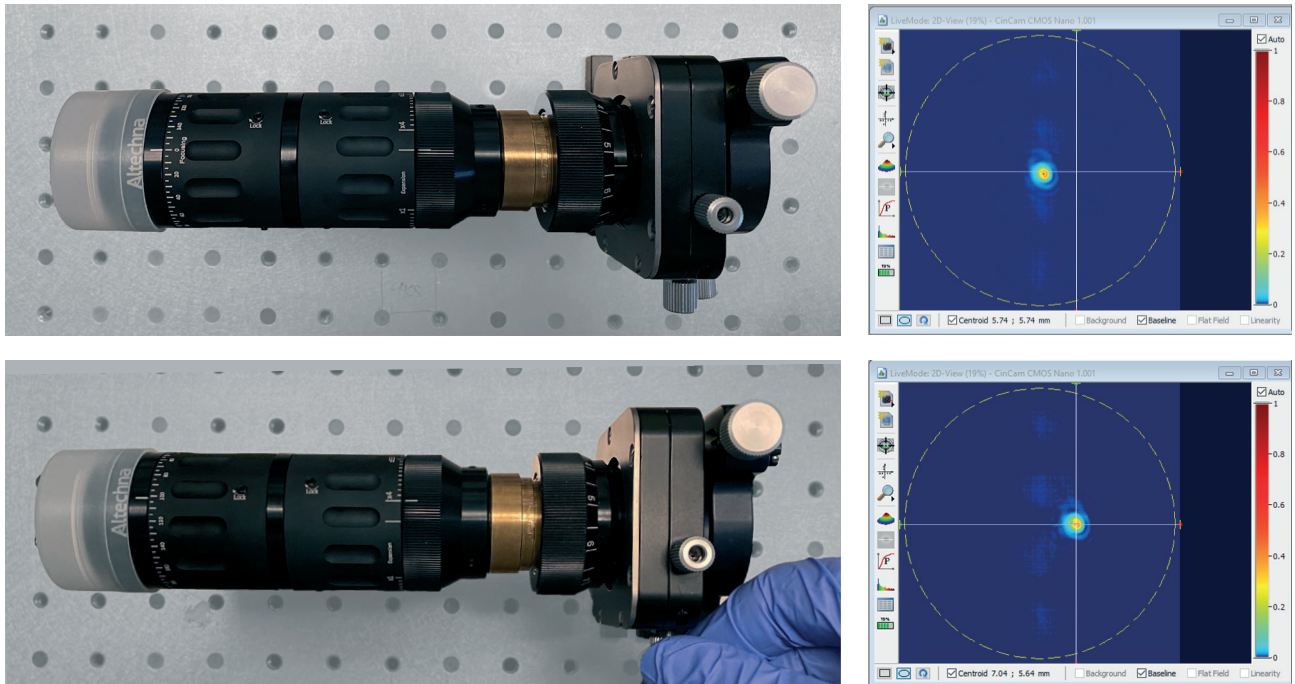

Figure 19. Centering laser beam sport with crosshair.
11. The laser beam spot will be moved from the crosshair again. By adjusting tilt ($\theta_x; \theta_y$) get the laser beam spot back to the crosshair (fig. 19):